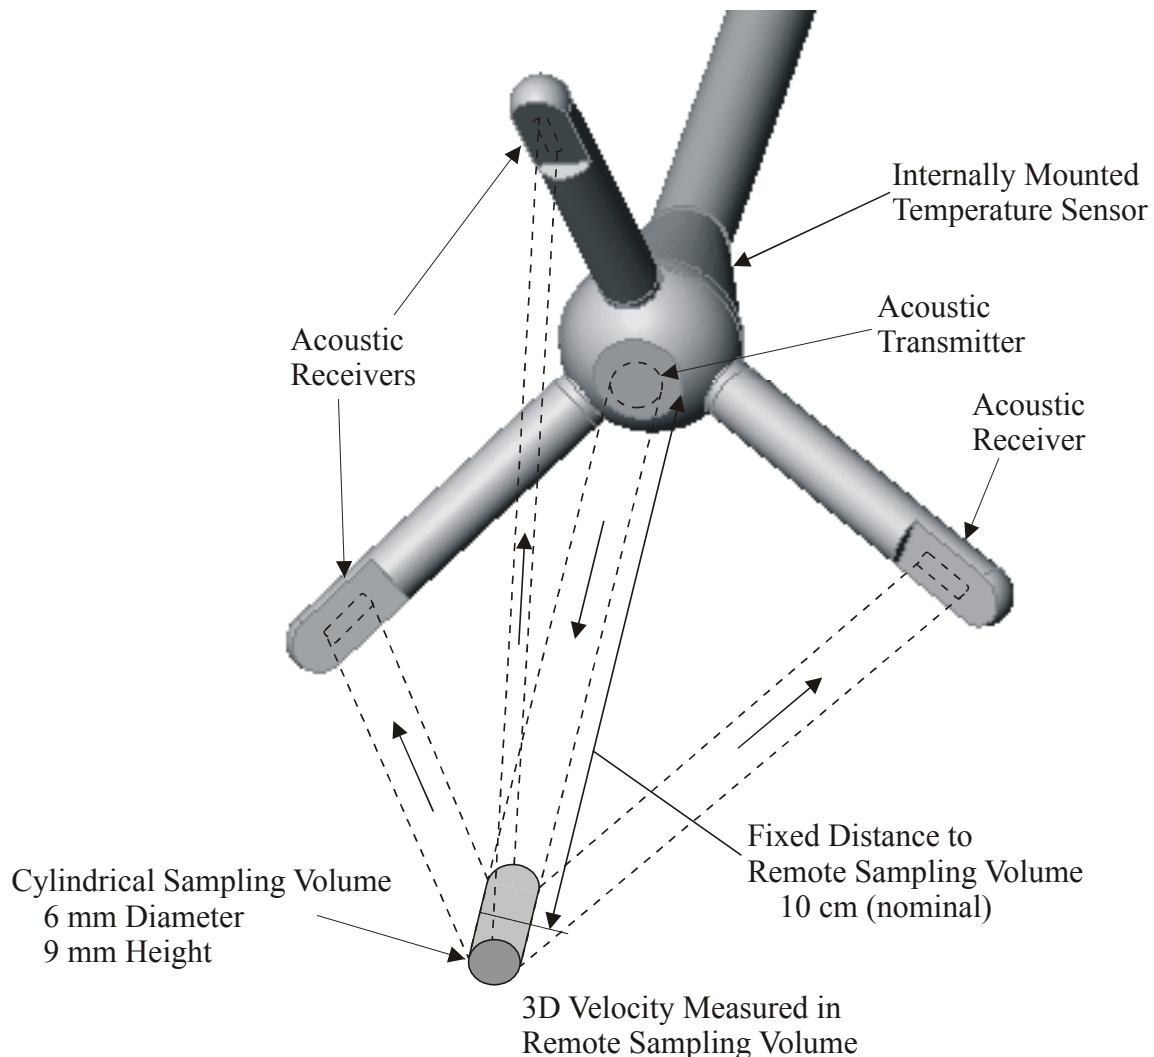

Figure 2 – Triton Probe and Sampling Volume
- **Probe** – The probe consists of one transmitter and three receivers (for 3D measurements). Probe components and functions are shown in Figure 2.